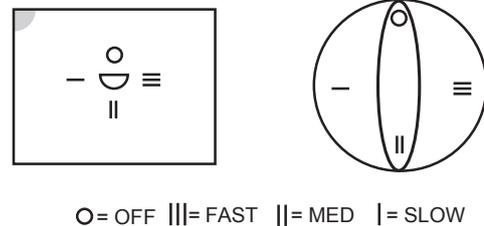

Figure 4
**INSTALLATION NOTE:** The "O" and the small corner cut-out on the front of the switch mechanism must be at the top and top left respectively (See Figure 4).